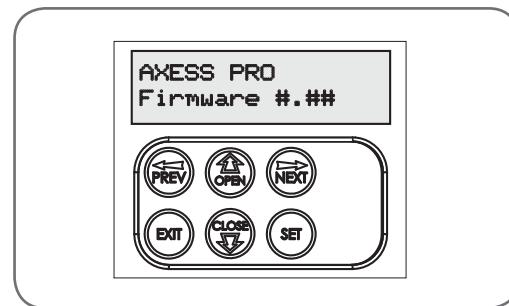

Fig 7.1
- After checking the initial wiring, apply power to the Axess® 1101. The controller will go through a startup sequence displaying the STARTUP SCREEN which indicates the controller type and firmware version (**Fig. 7.1**). After a short delay the MAIN SCREEN will be displayed.